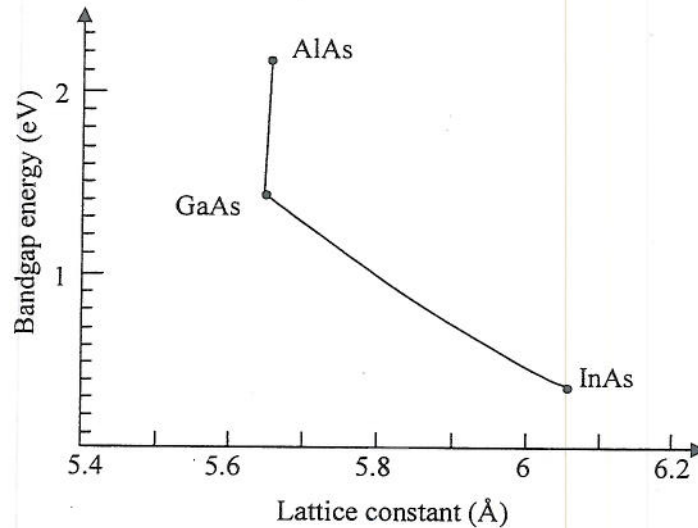

Figure 1.2: Bandgap energy as a function of lattice constant in Ga-containing alloys.
- g) In Figure 1.2 the bandgap energy is given as a function of lattice constant for three different alloys.
- i) Use Figure 1.2 to estimate the lattice constant and bandgap of $\text{In}_{0.2}\text{Ga}_{0.8}\text{As}$ and $\text{Al}_{0.5}\text{Ga}_{0.5}\text{As}$. [2]